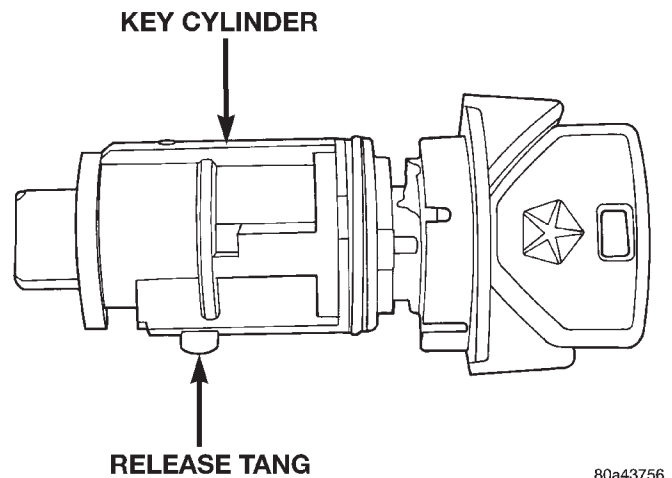

Fig. 39 Key Cylinder Release Tang
- (1) Disconnect negative battery cable at battery.
- (2) If equipped with an automatic transmission, place shifter in PARK position.
- (3) Rotate key to ON position.
- (4) A release tang is located on bottom of key cylinder (Fig. 39).